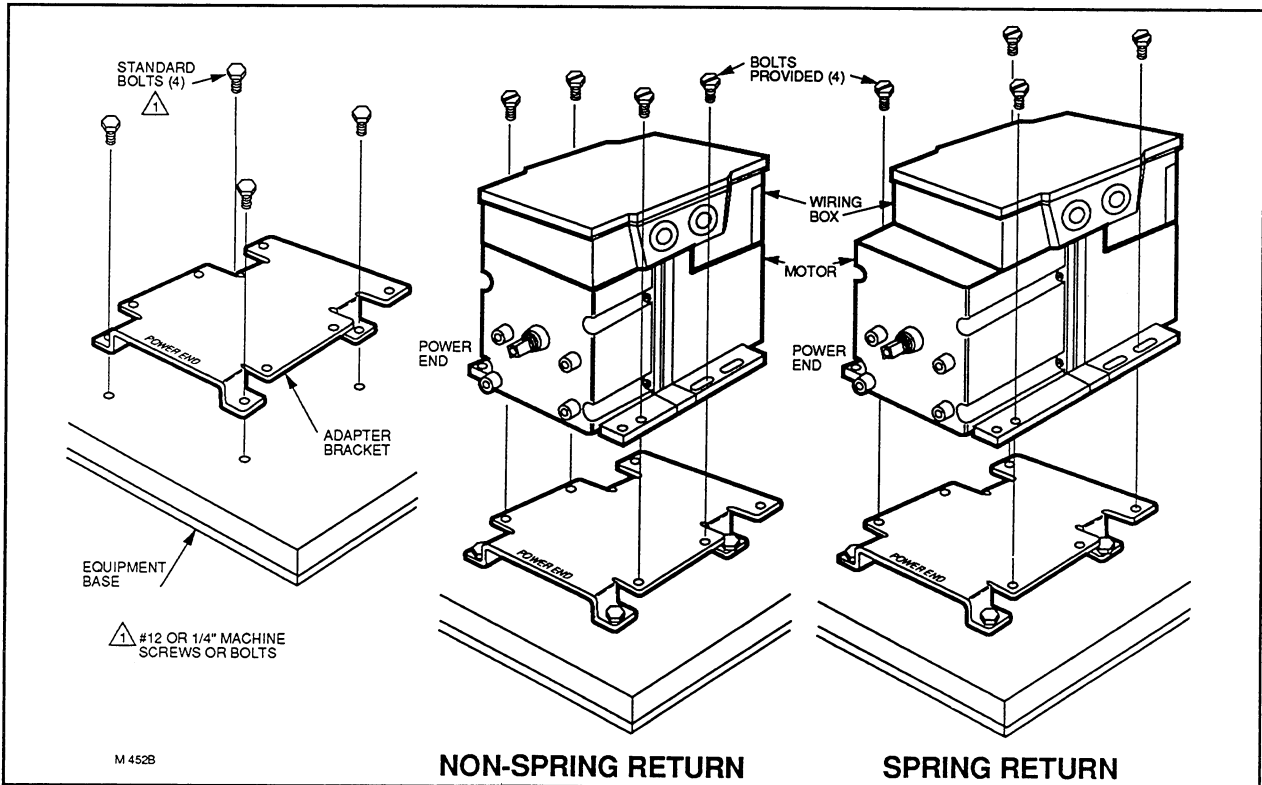

Fig. 1—Damper Application. First mount adapter bracket to equipment, then mount motor to bracket using bolts provided.
You may mount the motor in any position as long as the shaft remains horizontal. Install the Modutrol motor in any location except where acid fumes or other deteriorating vapors might attack the metal parts, or in atmospheres of escaping gas or explosive vapors. Allow enough clearance for installing accessories and servicing the motor when selecting a location. The wiring box provides NEMA 3 weather protection (shown in Figs. 1 and 2).
**For damper linkage applications:** First mount the bracket to the equipment with existing or standard bolts. Then mount the motor to the bracket using the bolts provided (see Fig. 1). *Notice the difference between the configuration for mounting of the spring return motor versus the nonspring return motor to the adapter bracket as shown in Fig 1.*